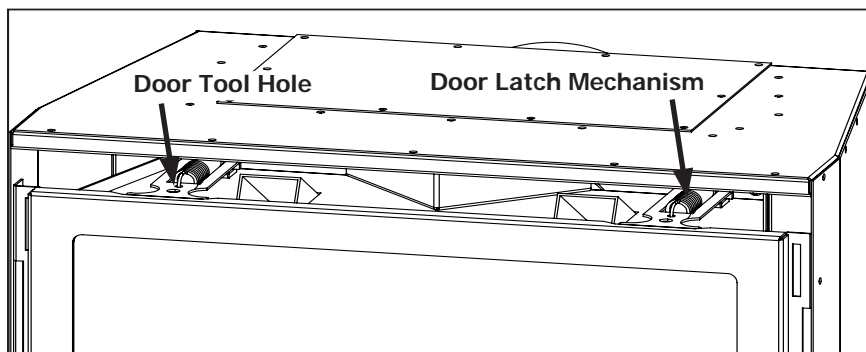
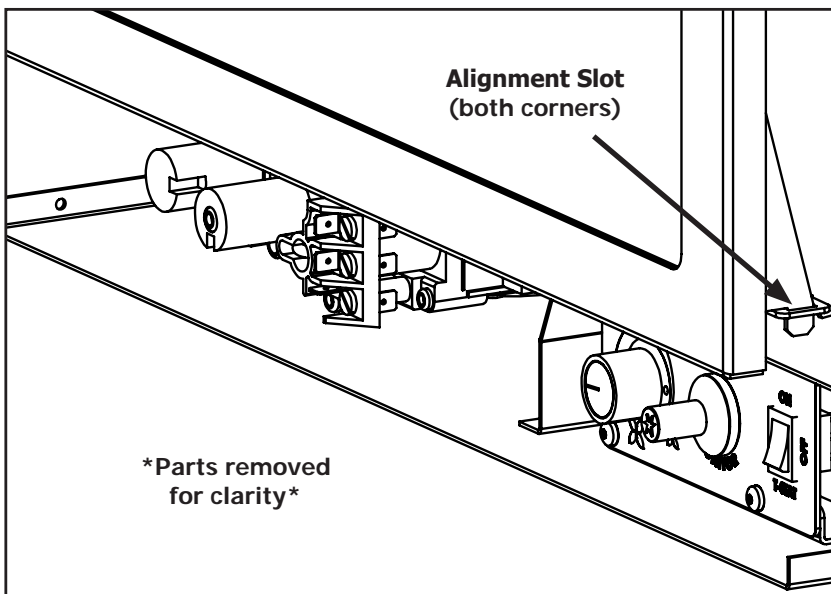

Figure 8. Top latches for glass door
Figure 9. Bottom Alignment Slots for glass door.
In order to install the log set, and for regular cleaning, the glass door must be removed. There are two (2) door latch mechanisms on top the glass door as shown in Figure 8. Each latch has a hole at the front to use the door tool, supplied with the unit, to pull the mechanisms straight out and up. When the top latches are unhooked, lean the door forward and then lift it up out of the alignment slots at the bottom corners of the firebox, shown in Figure 9.